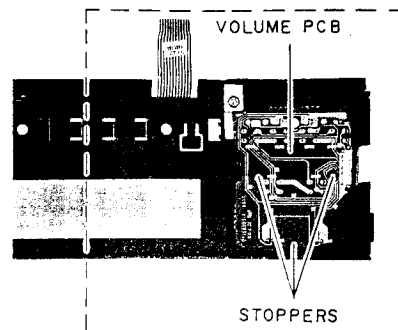

Fig. 4-1
- 2) Unfasten the stoppers, then remove the VOLUME P.C. Board as shown in Fig. 4-1.